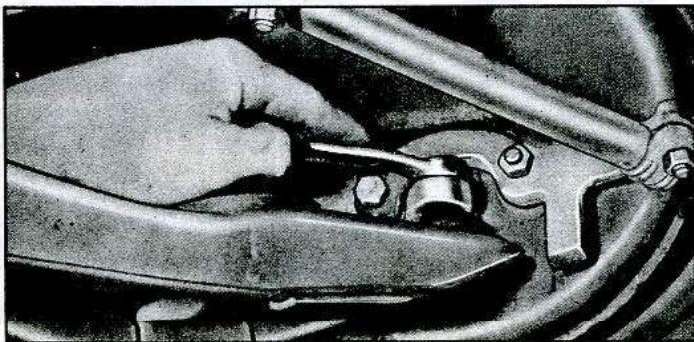

Fig. 3-17—Removing Lower Control Arm
9. Scribe the location of the inner pivot bolt cam so that it may be reinstalled in exactly the same position. Then remove the inner pivot nut, lock washer, outer cam and the adjusting cam bolt assembly. See Figure 3-17.